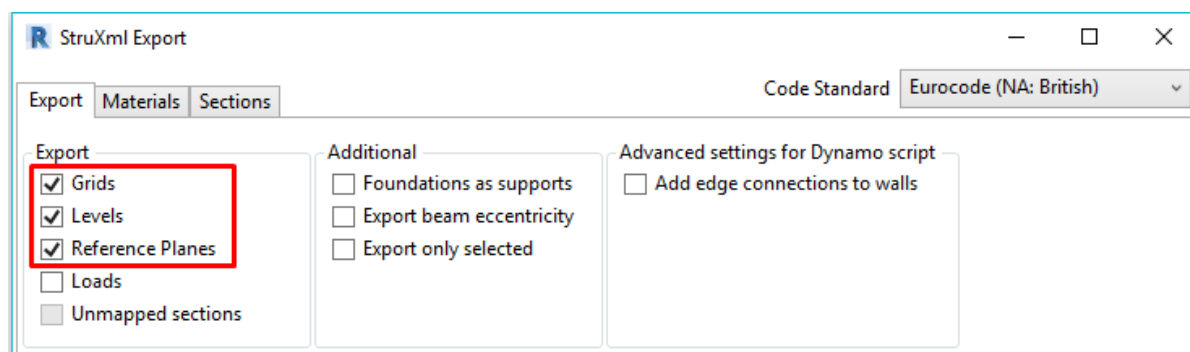

Figure III-23
- If the option to *Export Grids* (Figure III-23) is selected, all the grids will be exported to FEM-Design.
- If the option to *Export Levels* is selected (Figure III-23), all the levels will be exported to FEM-Design.
- If the option to *Export Reference planes* is selected (Figure III-23), all the reference planes will be exported to FEM-Design.
In order to export loads and load cases one should select the *Loads* to be exported in the *StruXml Export* dialog, as shown in Figure III-23.